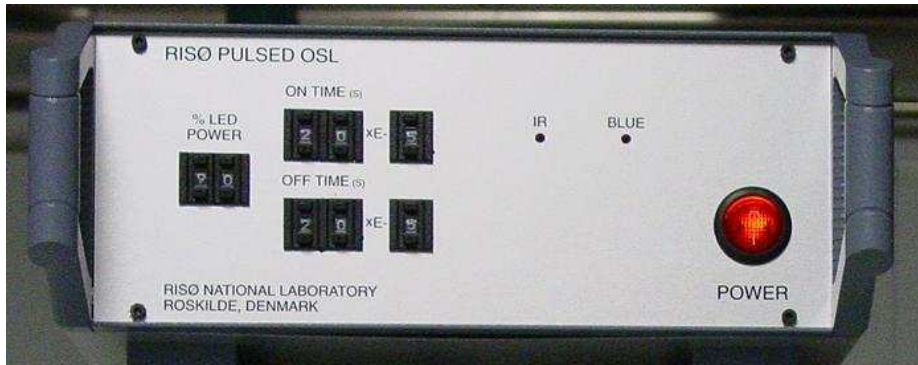

Figure 3: Picture of the Risø Pulsed OSL attachment
A picture of the attachment is shown in Figure 3.
7. Connect one end of the pulsed OSL calibration unit (Figure 4) to pulsed OSL unit (Figure 3; the socket on the pulsed unit which normally connects to the OSL head plug) and connect the other end to the OSL head itself.
18. Run a calibration routine. This is done by adjusting the thumb wheel setting (Figure 3) to: